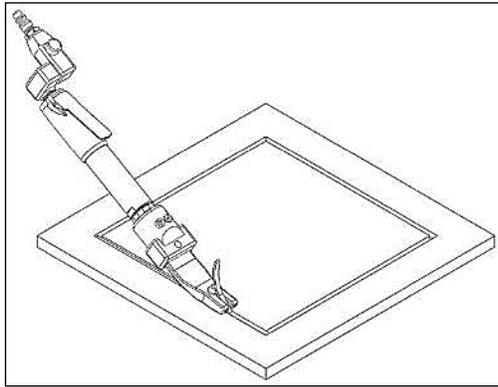

Figure 10. Gap Filler Removal
3.2.4. With the shallowest TGB installed (0.075"), fully depress the lever on the pneumatic tool and apply forward pressure and guide the TGB through the gap filler. See **Figure 10**.